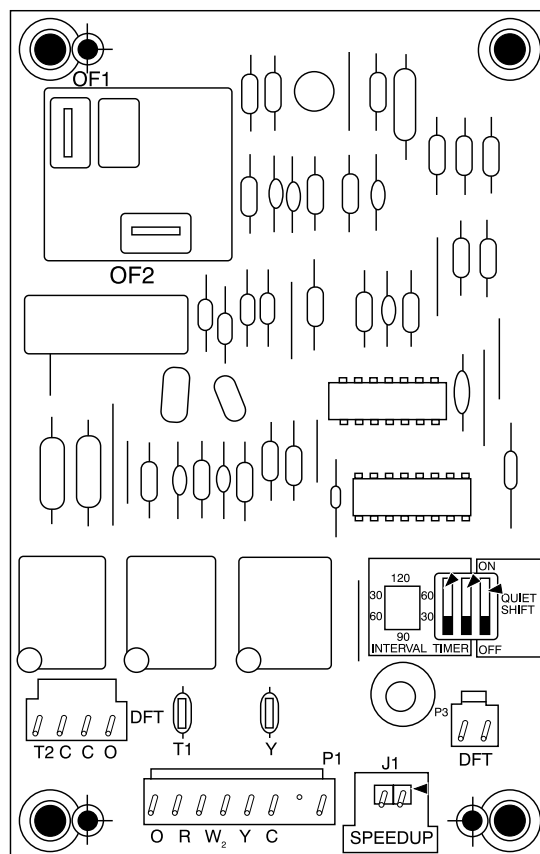

Fig. 12 – Defrost Control HK32EA012
6. Jumper between DFT and R terminals on control board as shown in Fig. 12.
12. Unit is now operating in defrost mode. Check between C and W2 using voltmeter. Reading on voltmeter should indicate 24v. This step ensures defrost relay contacts have closed, energizing supplemental heat (W2) and reversing valve solenoid (O).